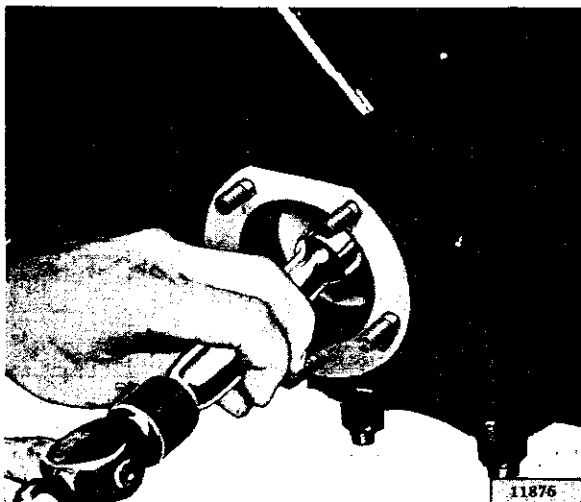

FIG. N-17—OIL SEAL DRIVER
g. Wipe axle housing tube seal bore clean and install a new oil seal using driver tool W-186, as shown in Fig. N-17.